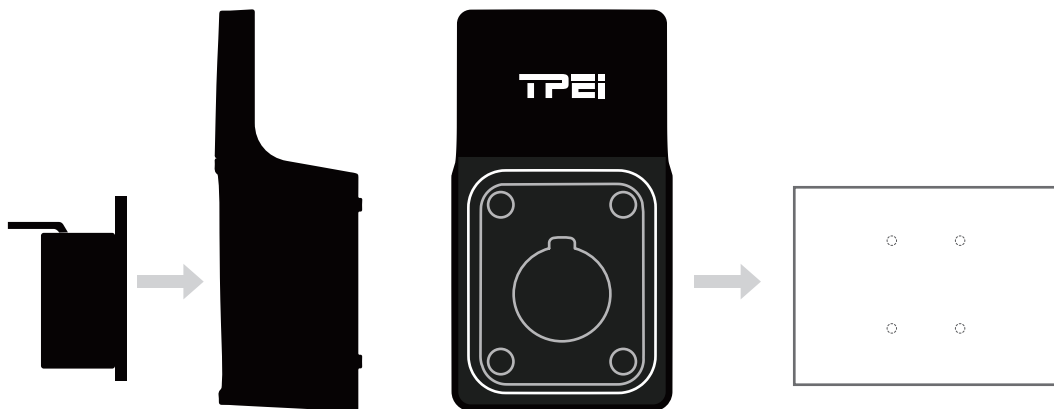

Fig. 5-22
4. Fit the charging plug socket into the charging dock. (See Fig. 5-22)